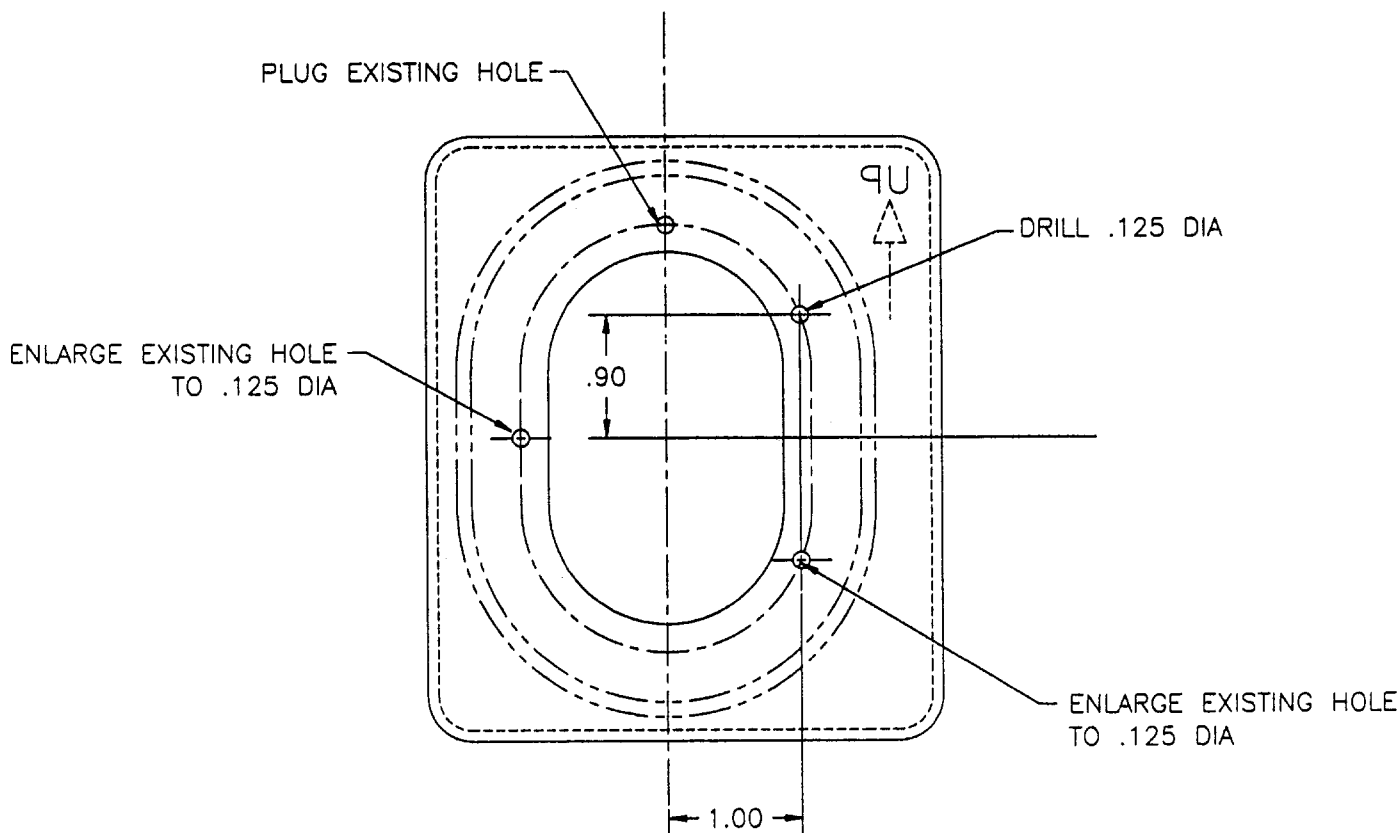

Figure 3. Cover Plate Modifications
1. Refer to Figure 3. Plug the existing upper hole of the Emergency Gear Extension Valve Cover Plate with Duramix #4040 or equivalent.
3. Drill an additional .125 diameter hole in the location shown in Figure 3.